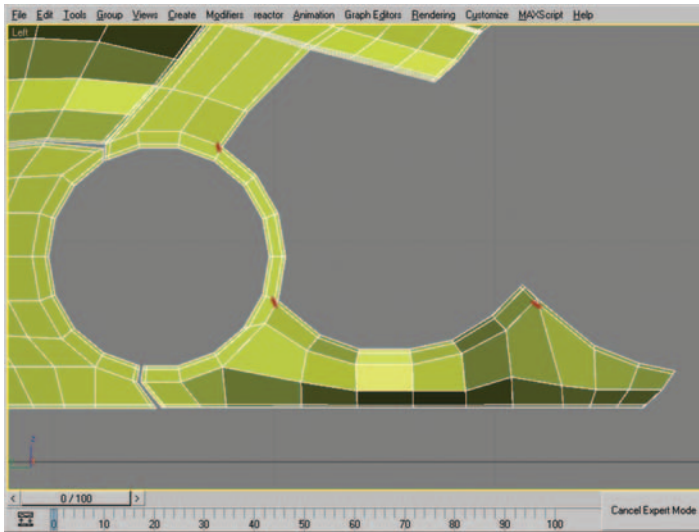

Figure 8.71 Edge selection. Using Collapse eliminates the edges as well as any N-gons in the area.
70. Select the three edges shown in Figure 8.71 and use Collapse to eliminate the edges, as well as the Tris.